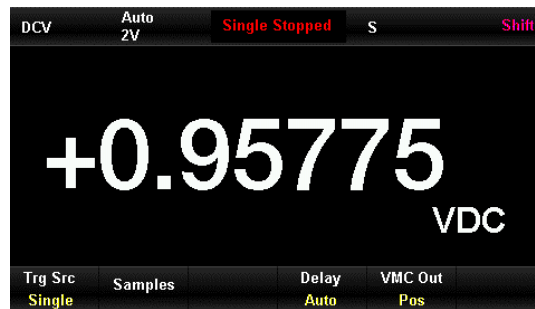

Figure 2-38 Setting interface of single trigger
- 1) Press  button and then select [Trg Src] → [Single], or press  button to turn single trigger function on directly as Figure 2-38.